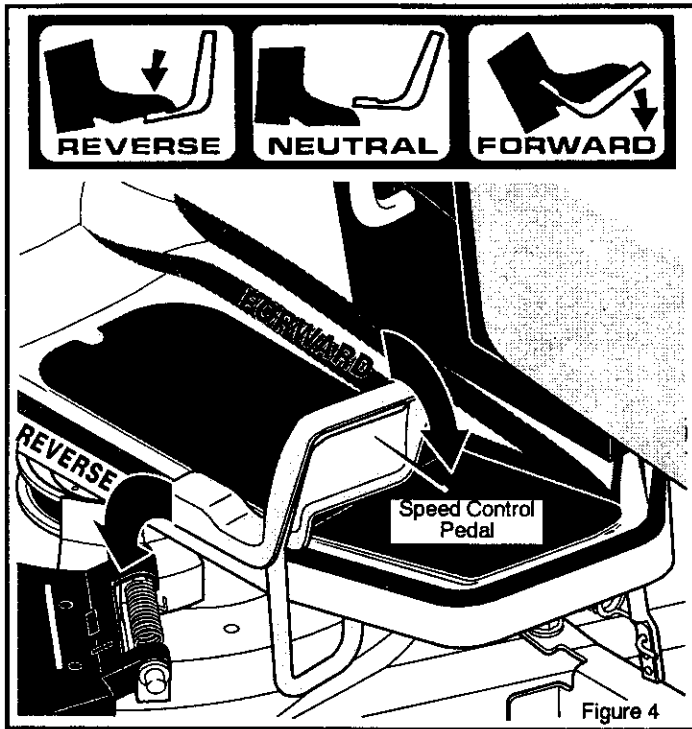

Figure 4
4. Slowly push the **speed control pedal** forward to the desired speed (Figure 4).